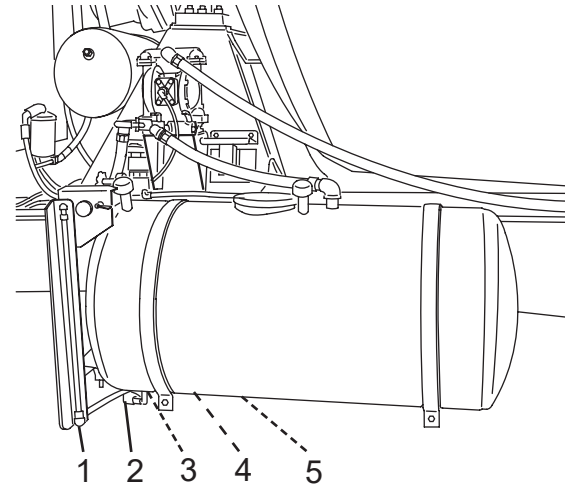

Figure 95
3. Remove the water tank drain plug(s) (Figure 95, Items 3 and 5), or open the drain valve(s) (if equipped).
4. Open the main tank (Figure 95, Item 4) and chemical tank (if equipped) (Figure 95, Item 2) sight glass isolator valves.
5. Open the sight glass drain valve(s) (Figure 95, Item 1).
6. When no more water comes from the tank drain(s), install the water tank drain plug(s) (Figure 95, Items 3 and 5). Tighten the plug(s) until snug.
7. Close the sight glass drain valve(s) (Figure 95, Item 4).